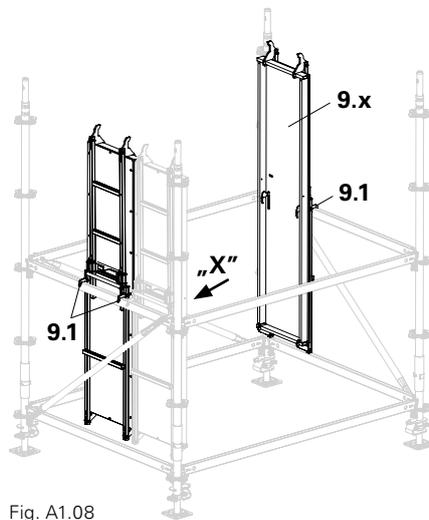

Fig. A1.08
1. 3. Attach the additional decking (9) with the hooks (9.1) next to the first deck, see Point 2.
2. 4. Install the last deck (9.x) – turned by 180° to the opposite Ledger – by means of the two hooks (9.1). (Fig. A1.08 + A1.07a)
Decking is only allowed to hang for a short time before it is folded out into the open position. (Fig. A1.08)